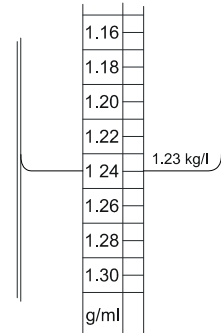

Figure 5-8. Measuring Electrolyte Specific Gravity
- Read the value as indicated in Figure 5-8.